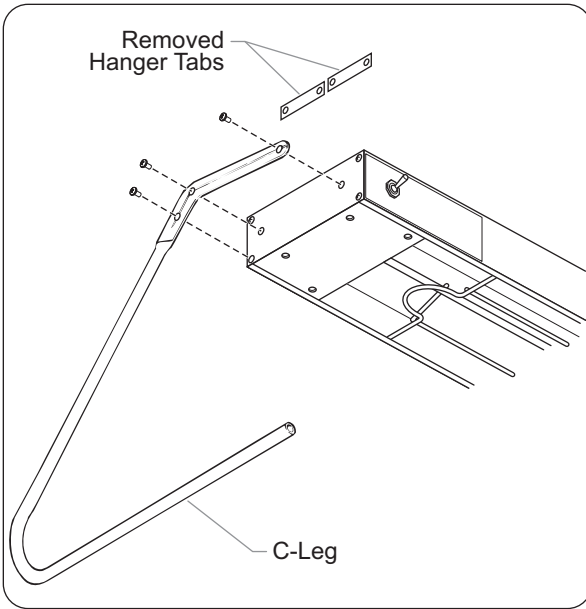

Figure 14. C-Leg Stand
4. Remove the one end plate screw that aligns with the lowest mounting hole on the C-Leg (see Figure 14).